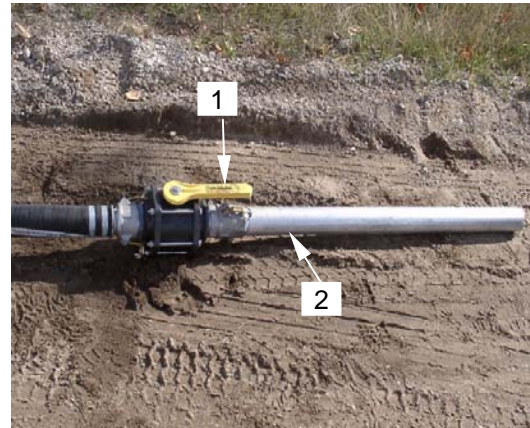

Figure 22. PVC Valve on Chopper Tube/Wand
17. Open ball valve (**figure 22, item 1**) on chopper tube/wand (**figure 22, item 2**) (handle aligned with wand).
28. Place chopper tube/wand with the PVC ball valve (**figure 22, item 1**) open, into one of the equipment trays. Install dust cover (**figure 29, item 2**) on intake valve (**figure 29, item 1**).